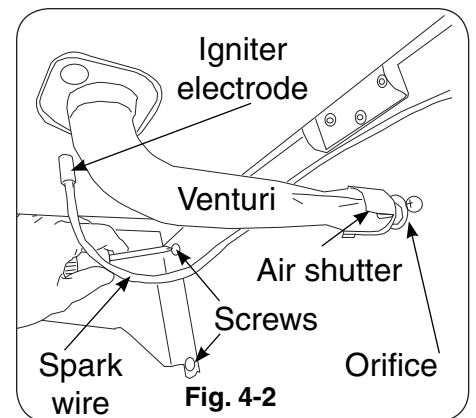

Fig. 4-2
Align the four (4) holes in the shelf with the four (4) holes in the side of the cart while aligning and engaging the burner venturi with the orifice (Fig. 4-2). Insert the four (4) screws (provided) into the holes and tighten. Connect the spark wire to igniter electrode (Fig. 4-2). Open sideburner lid, set cap on burner, and set grid into shelf.